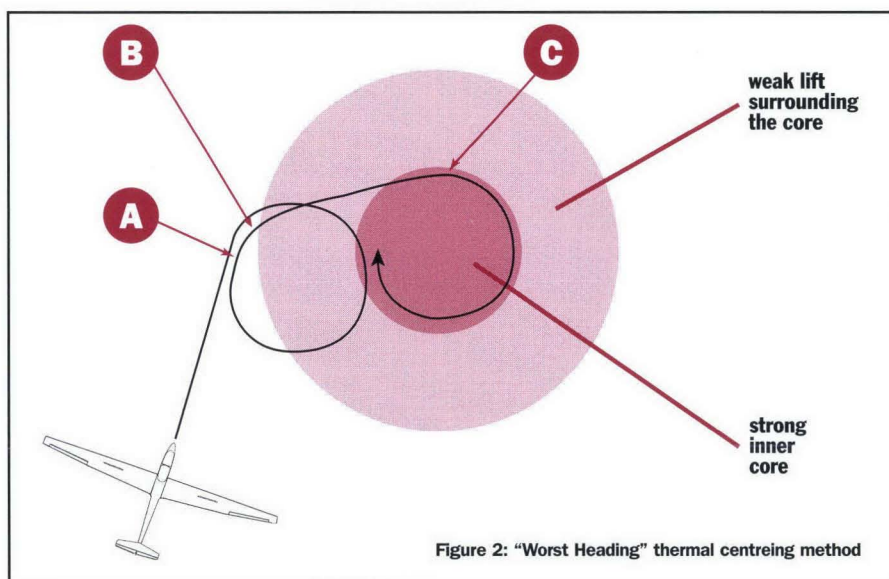

Figure 2: "Worst Heading" thermal centring method
**T**he second popular system of centring a thermal is the so-called 'Worst Heading' method. It is best employed if we find ourselves a fair distance away from the centre of the thermal – a situation not unlike Figure 2. If you think the sketch is too simplistic, you are right. The only thing certain about a thermal is that it is not of a circular cross section.